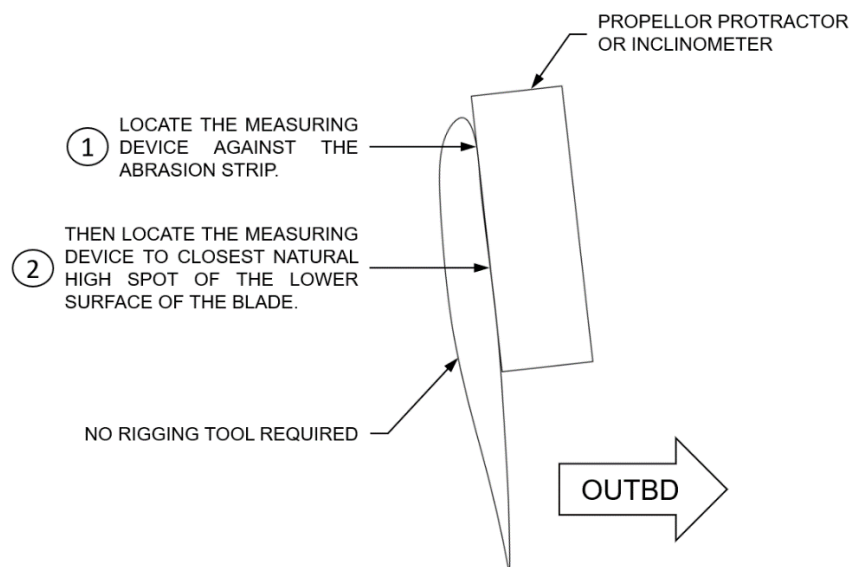

Figure 64-2 Protractor Placement for Blade Angle Measurement
64.3.4 Use protractor as shown in Figure 64-2 below.